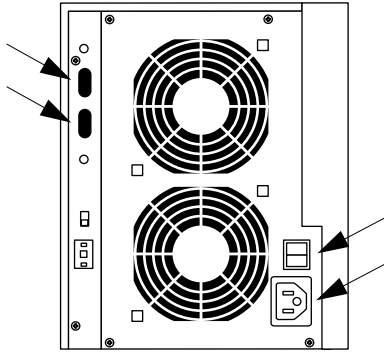

FIGURE 3-15 Fibre Channel Cable Connectors, Power Switch, and Power Inlet Locations
2. Remove Fibre Channel cable(s) and power cord (FIGURE 3-15).